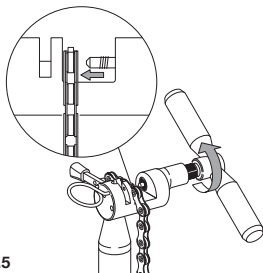

Fig.5
- tighten the tool until the small pin emerges completely from the hole in the link (**Fig. 5**).